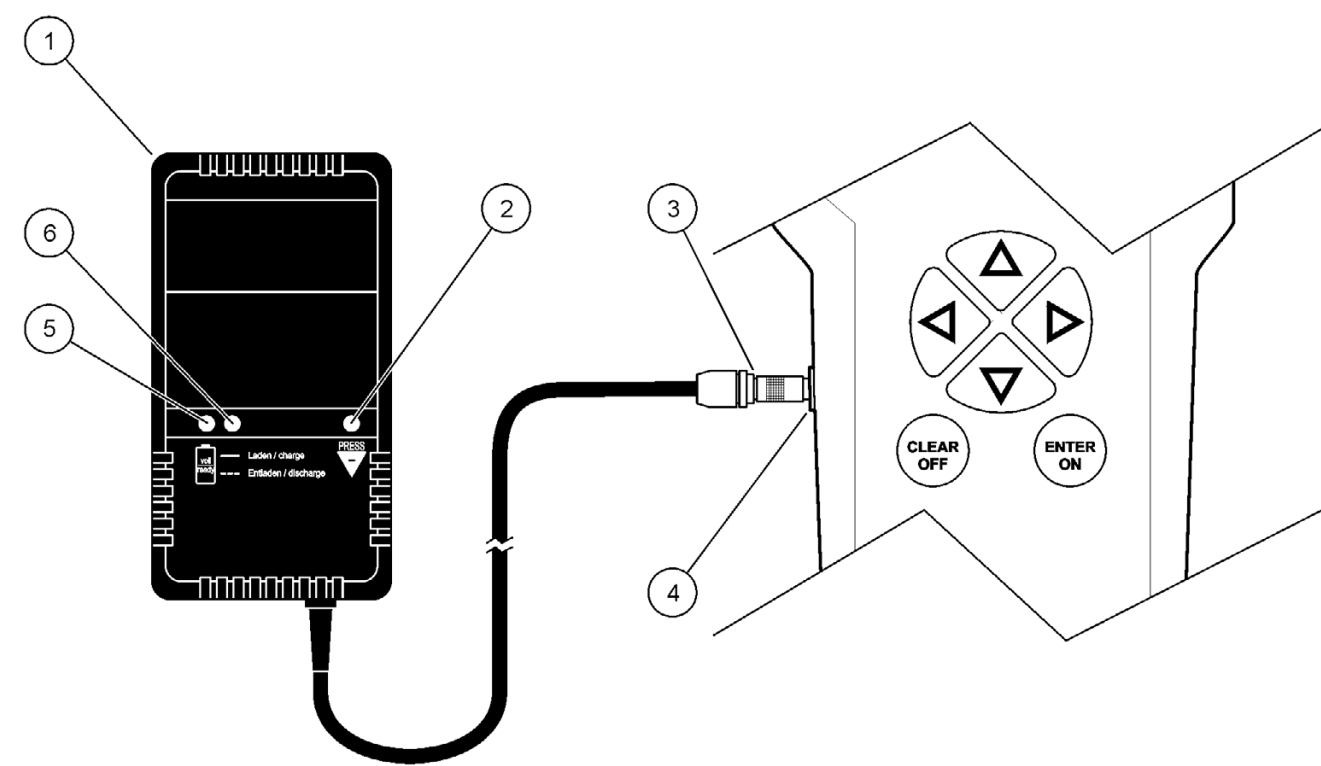

Figure 4 Charge the batteries
3. Insert the charging plug (item 3, Figure 4) into the charging socket (item 4, Figure 4) of the instrument.
1. When using NiMH rechargeable batteries, connect the charger to the power supply and then connect to the instrument (Figure 4). The batteries are charged.